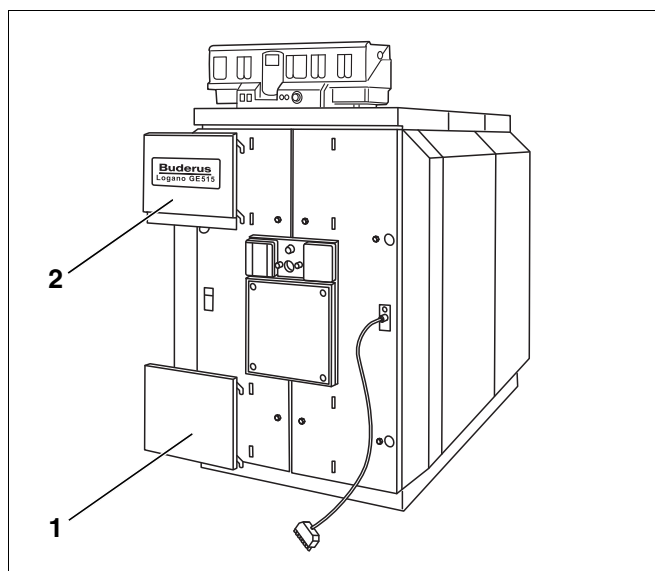

Fig. 58 Attaching the burner door panels
- ▶ Attach the burner door panels to the burner door cladding (Fig. 58, [1] and [2]).